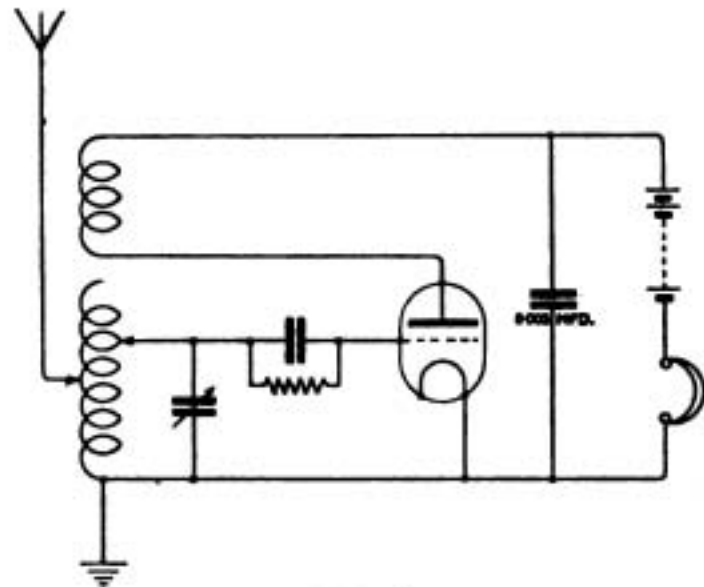

Fig. 2.
**P.R.D. (Gray's Inn)** asks (1) For a diagram of a single valve receiving set consisting of certain components. (2) If a grid condenser is necessary.
(1) For diagram see Fig. 2. A bye-pass condenser (.003 mfd.) also required across the telephones and the H.T. Construct as shown in the issue for April 3rd. (Wavemeter condenser.) Filament battery and resistance not known.
(2) Not necessary, but advisable for best results.